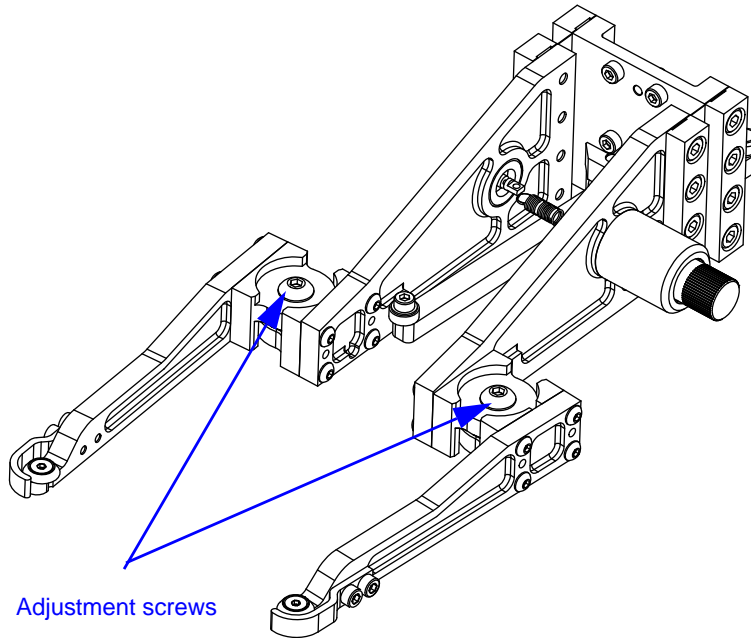

Figure 12. Wide Arms
If your system has wide arms installed (see Figure 12 on page 36) you may need to adjust the default opening to accommodate larger specimens. When first installed, the arms are set to a 50mm opening.
1. Loosen the screws at the pivot point of the each arm (see Figure 12 on page 36) and move the arm to its maximum position.